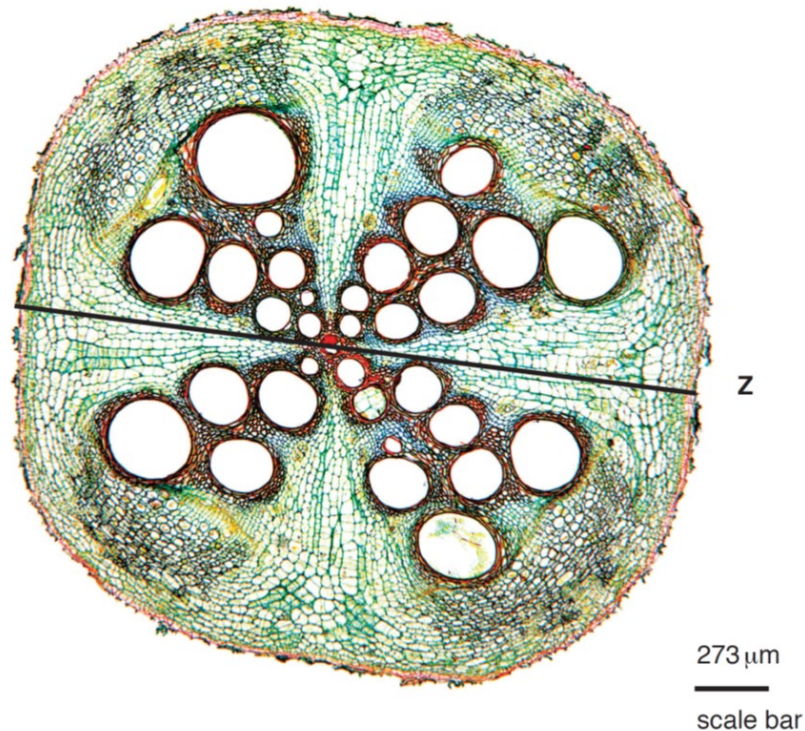

Fig. 2.2
- (b) Fig. 2.2 is a photomicrograph of a stained transverse section through a root of a different type of plant.
annotates 3 correct features on Fig 2.2 using labels Q, R and S with appropriate differences as annotations; ; ;
Fig 2.2 xylem tissue arranged in a cross shape, L1 arranged in a ring
Fig 2.2 has varying sizes of xylem vessels, L1 has uniform sizes of xylem vessels
Fig 2.2 has absence of pith or central region, L1 has large pith
Fig 2.2 has a cortex that takes up a smaller proportion of the root, while L1 has a cortex that takes up a larger proportion of the root (accept comparison on proportion of vascular bundle to root)
Fig 2.2 has a angular / squarish shape, L1 is round / oval
Cells in the cortex of Fig. 2.2 are elongated while cells in the cortex of L1 are more circular/round;
(i) Annotate Fig. 2.2 to describe **three** observable differences between the root in Fig. 2.2 and the root on **L1**.
- Draw label lines to **three** features of the root in Fig. 2.2 that are different from the root on **L1**.
- Next to each letter, describe how each feature of the root in Fig. 2.2 differs from the root on **L1**.
(ii) Use the scale bar and the line **Z** on Fig. 2.2 to calculate the actual width of the root.